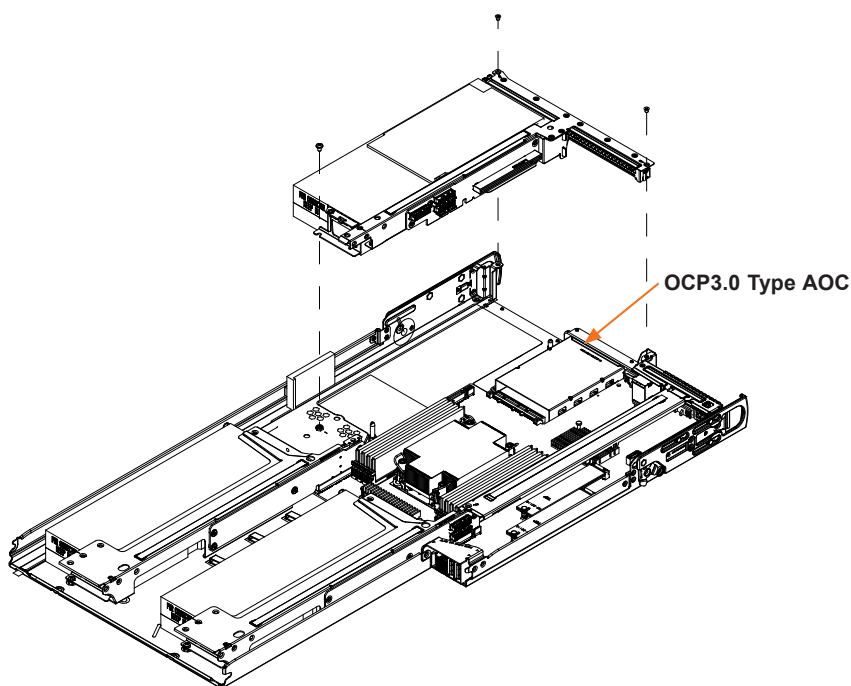

Figure 3-13. Riser-B Expansion Card
2. Begin by removing the riser assemblies from left to right (when viewed from the rear). See Figure 3-13 for the riser-B expansion card details.
3. At the rear of the chassis, remove the PCI riser by unlatching the riser release (see Figure 1-3 for locations). There is one located at the metal chassis rear crossbar. See Figure 3-13 for the riser-B expansion card details.